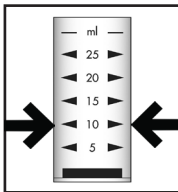

Figure 2
3. Pour 10 mL of the reacted sample from Step # 2 into the empty **25 mL sample cup** (fig. 2), being careful not to transfer any cadmium particles to the sample cup.